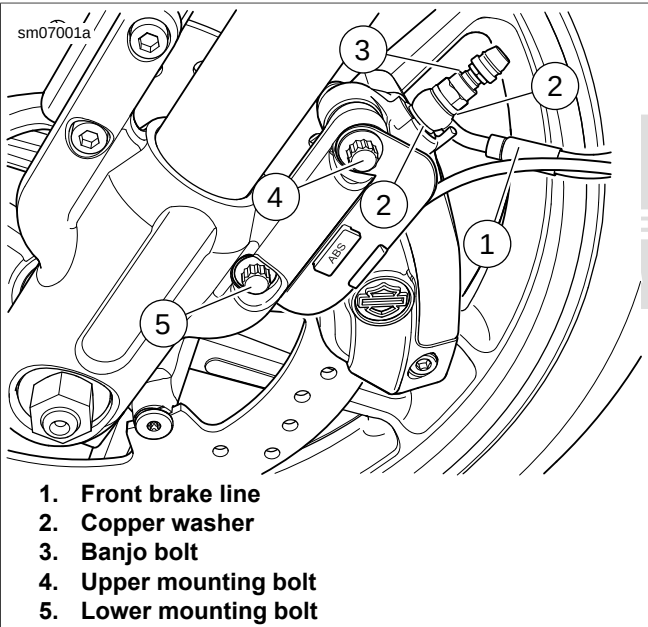

Figure 2-39. Front Brake Caliper Mounting (ABS model shown)
2. See Figure 2-39. Remove banjo bolt (3) and both copper washers (2) to detach front brake line (1) from caliper. Discard washers.
3. Remove both upper (4) and lower (5) mounting bolts (if ABS equipped, move ABS bracket out of the way). Lift caliper upward to remove from brake disc.
1. Figure 2-39. Attach calipers to fork legs.
- c. Loosely install upper mounting bolt (4) into top hole on fork leg.
- d. Install lower mounting bolt (5) into bottom hole on fork leg. Tighten bottom mounting bolt to 43-52 Nm (32-38 ft-lbs).